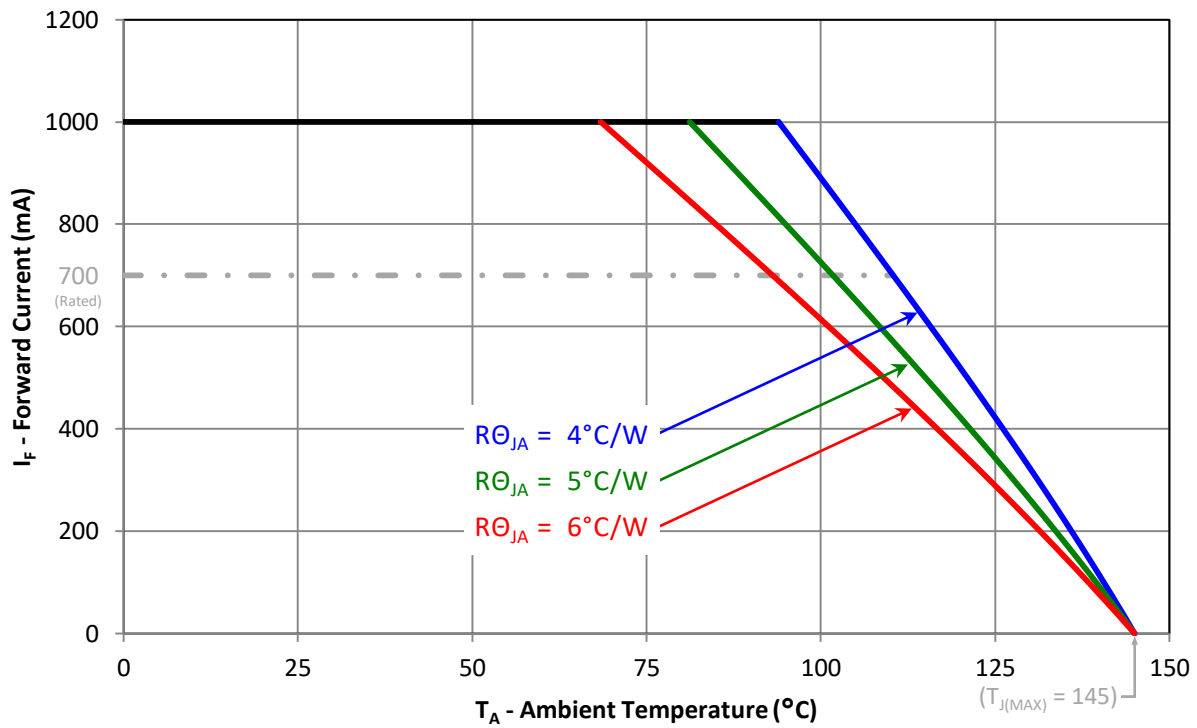

Figure 11: Maximum forward current vs. ambient temperature based on  $T_{j(\text{MAX})} = 145^\circ\text{C}$ .
- Maximum DC forward current (per die) is determined by the overall thermal resistance and ambient temperature. Follow the curves in Figure 11 for current derating.